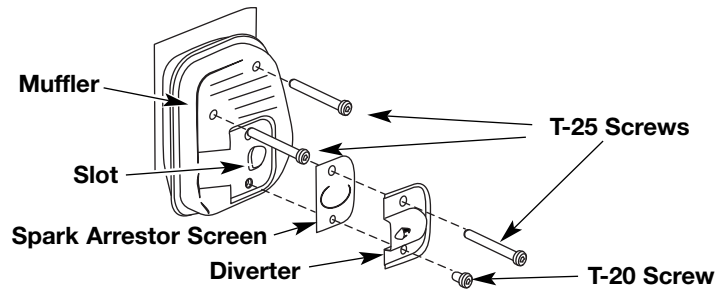

Fig. 35
2. With a flat blade screwdriver or Torx T-20 bit and a T-25 bit, remove the 4 screws attaching the spark arrestor cover to the muffler (Fig. 35).